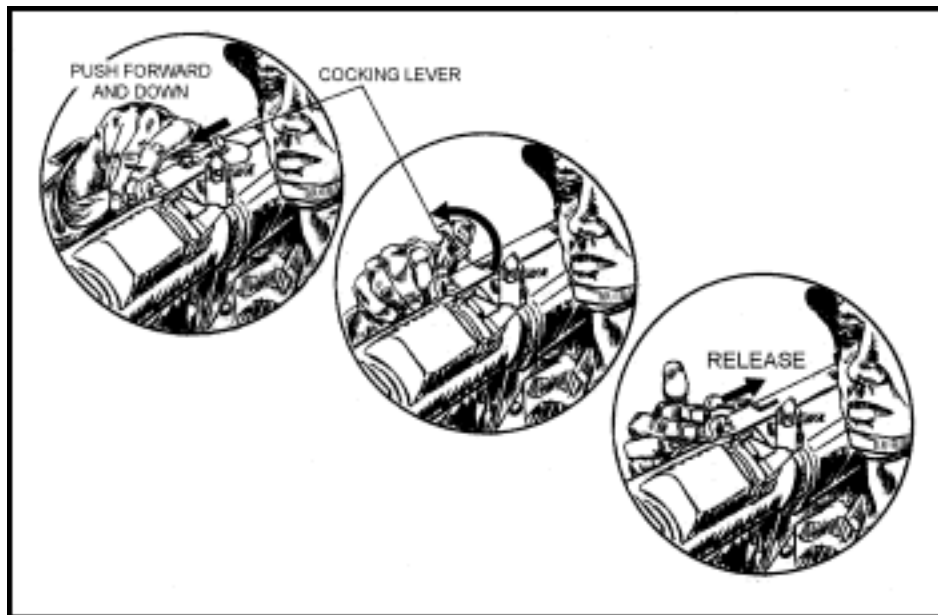

Figure 3-16. Cocking the launcher.
g. Check the backblast area before you cock the launcher. Then, with your right hand, unfold the cocking lever (Figure 3-16). Place your thumb under it and, with the support of your fingers in front of the firing mechanism, push it forward, rotate it downward and to the right, and let it slide backward.